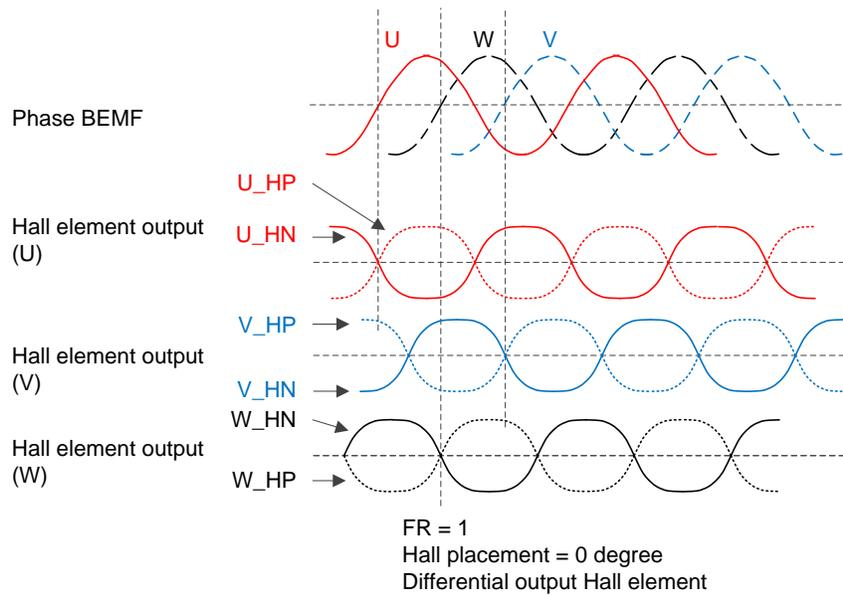
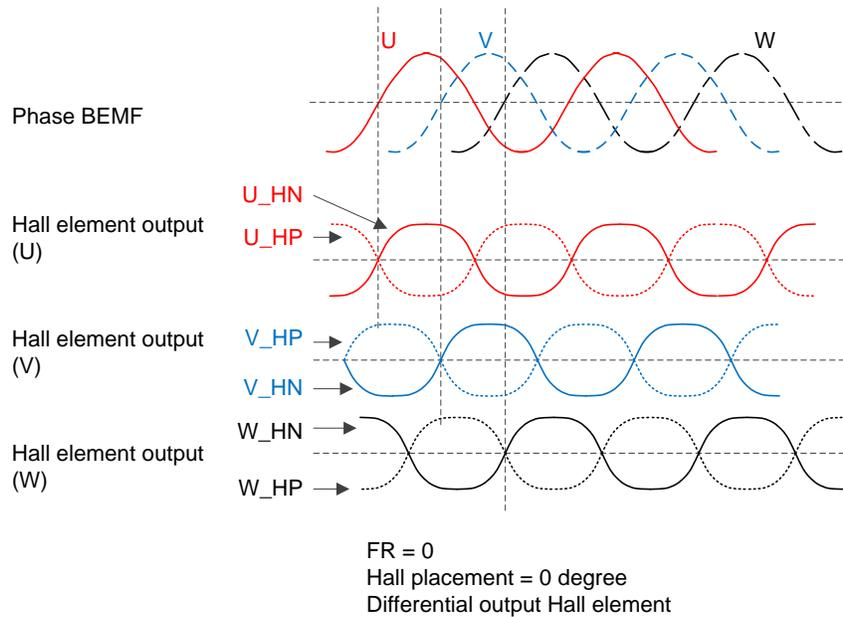
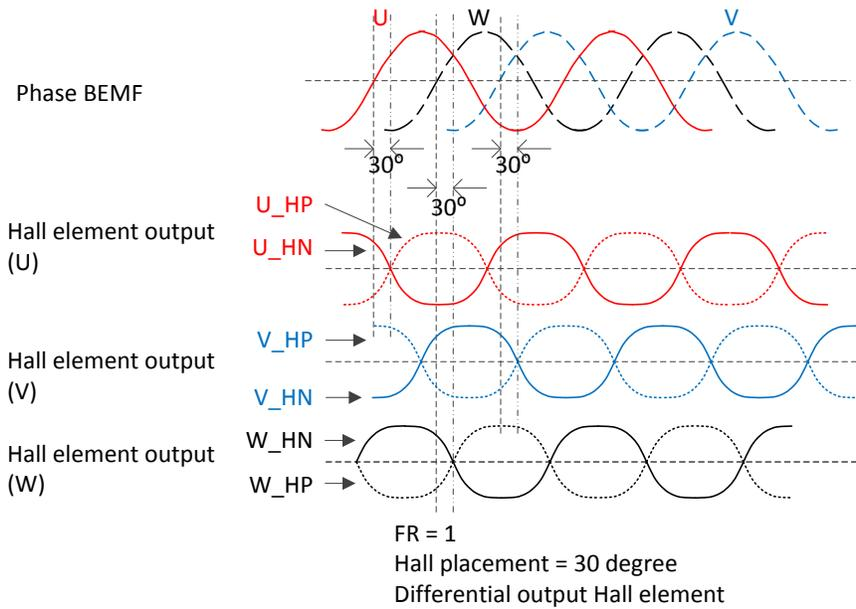
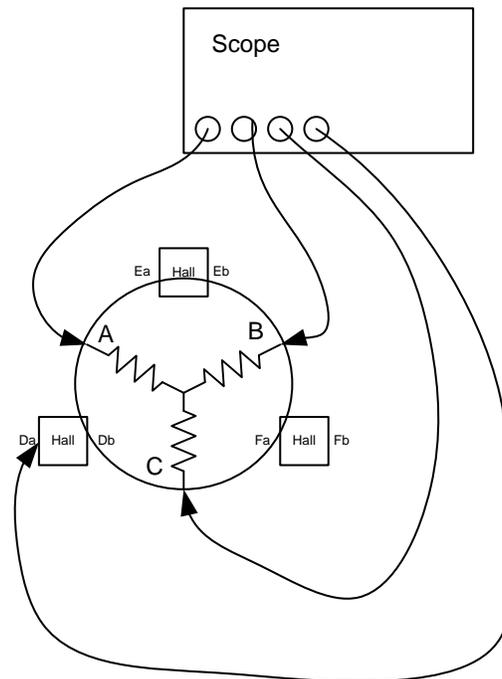

图 24. Correspondence Between Motor BEMF and Hall Signal (FR = 1, 0° Placement)
图 25. Correspondence Between Motor BEMF and Hall Signal (FR = 0, 0° Placement)
图 26. Correspondence Between Motor BEMF and Hall Signal (FR = 1, 30° Placement)
图 30. Motor Measurement
1. Phase U is leading phase W by 120°, phase W is leading phase V by 120°. The Hall signal positive output is aligned with respective phase BEMF. Choose FR = 1 and 0° placement option (see 图 24).
2. Phase U is leading phase V by 120°, phase V is leading phase W by 120°. The Hall signal positive output is aligned with respective phase BEMF in the opposite direction. Choose FR = 0 and 0° placement option (see 图 25).
3. Phase U is leading phase W by 120°, phase W is leading phase V by 120°. The Hall signal positive output is 30° lagging of respective phase BEMF. Choose FR = 1 and 30° placement option (see 图 26).
5. Use 4 channel Scope to observe signals. Connect probe -1, 2, 3 to A, B, C terminals of the motor (phases), probe-4 connects to Hall Da (or D). Name the probe 1 (terminal-A) as U-phase. (see 图 30)
6. Turn the rotor manually in clock-wise direction. If the waveform on probe-1 (U-phase) is leading probe-2 (terminal-B) by 120°, name the terminal-B as phase W and terminal-C as phase V. Else if waveform on the probe-2 is leading probe 1 (U) by 120°, terminal-B as V, terminal-C as W. At this stage all three phases of the motor are identified.
9. After phase UVW and Hall UVW positive negative are identified, manually rotate the motor again, check if the result matches 图 24 and 图 25 (0° placement) or 图 26 and 图 25 (30° placement).